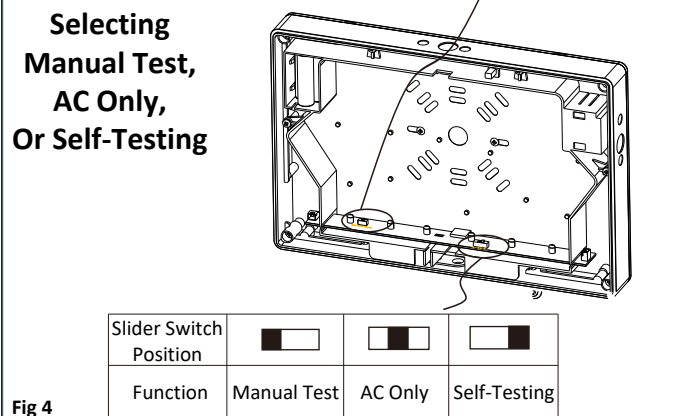

Fig 4
3. Change product function if necessary (Fig 4).